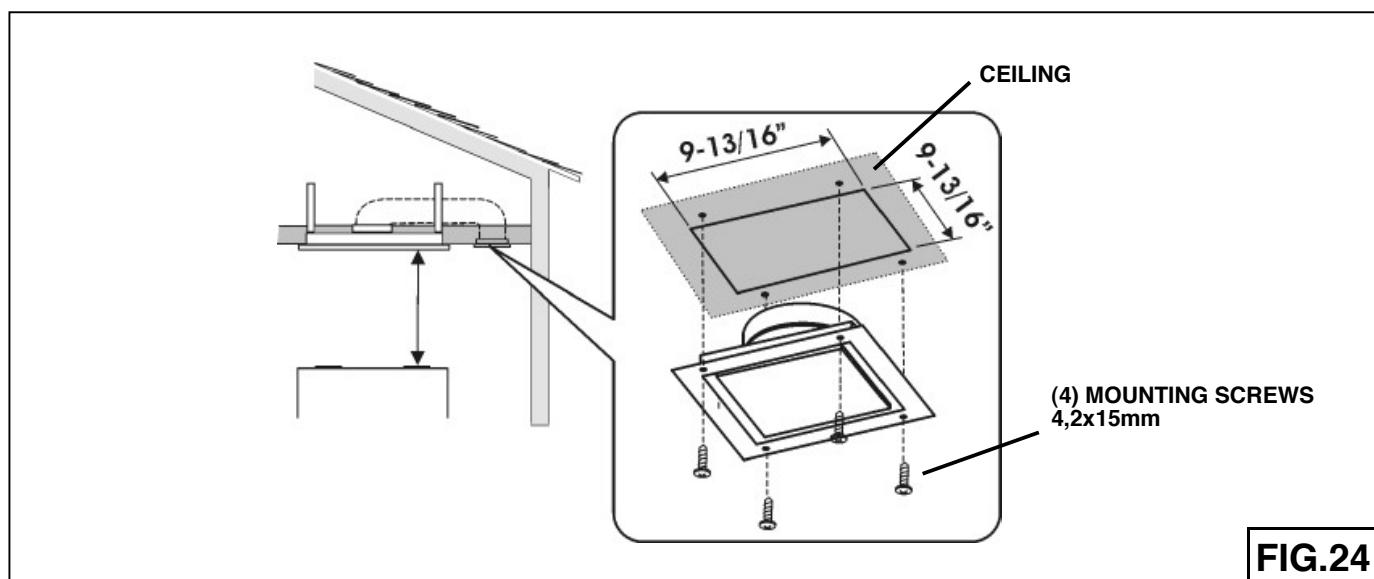

FIG.24
Make a cut-out in the ceiling for the air return vent. See Fig. 10 below and Fig. 24.
Fix the air return vent to the ceiling, by means (4) 4,2x15 mm screws. See Fig.24.